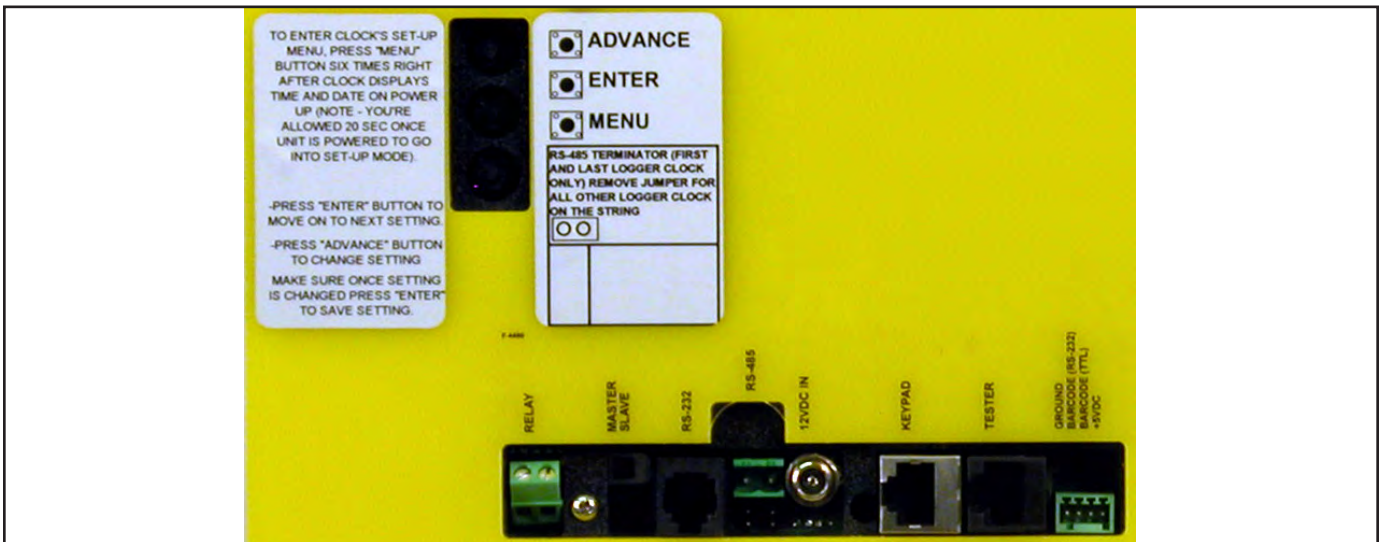

Figure 5. Back-side of SmartLog X3 plate
A. Clock's Baud Rate, ID, Parity, Daylight Option and Port Expand (see Figure 5)
1. Plug the power supply into the unit and then to the appropriate AC source. Refer to Figure 5 to locate the power input jack. The SmartLog X3 will cycle through a self diagnostic program. The time and date will appear on the screen when the diagnostics is complete. Do not continue until this step has been completed.
2. After the self diagnosis press the MENU button six times. (If you do not press the Menu button within 20 seconds the clock will exit out of the set-up menu and will need to be reset by disconnecting then reconnecting the power supply.) Refer to Figure 5 for button locations.